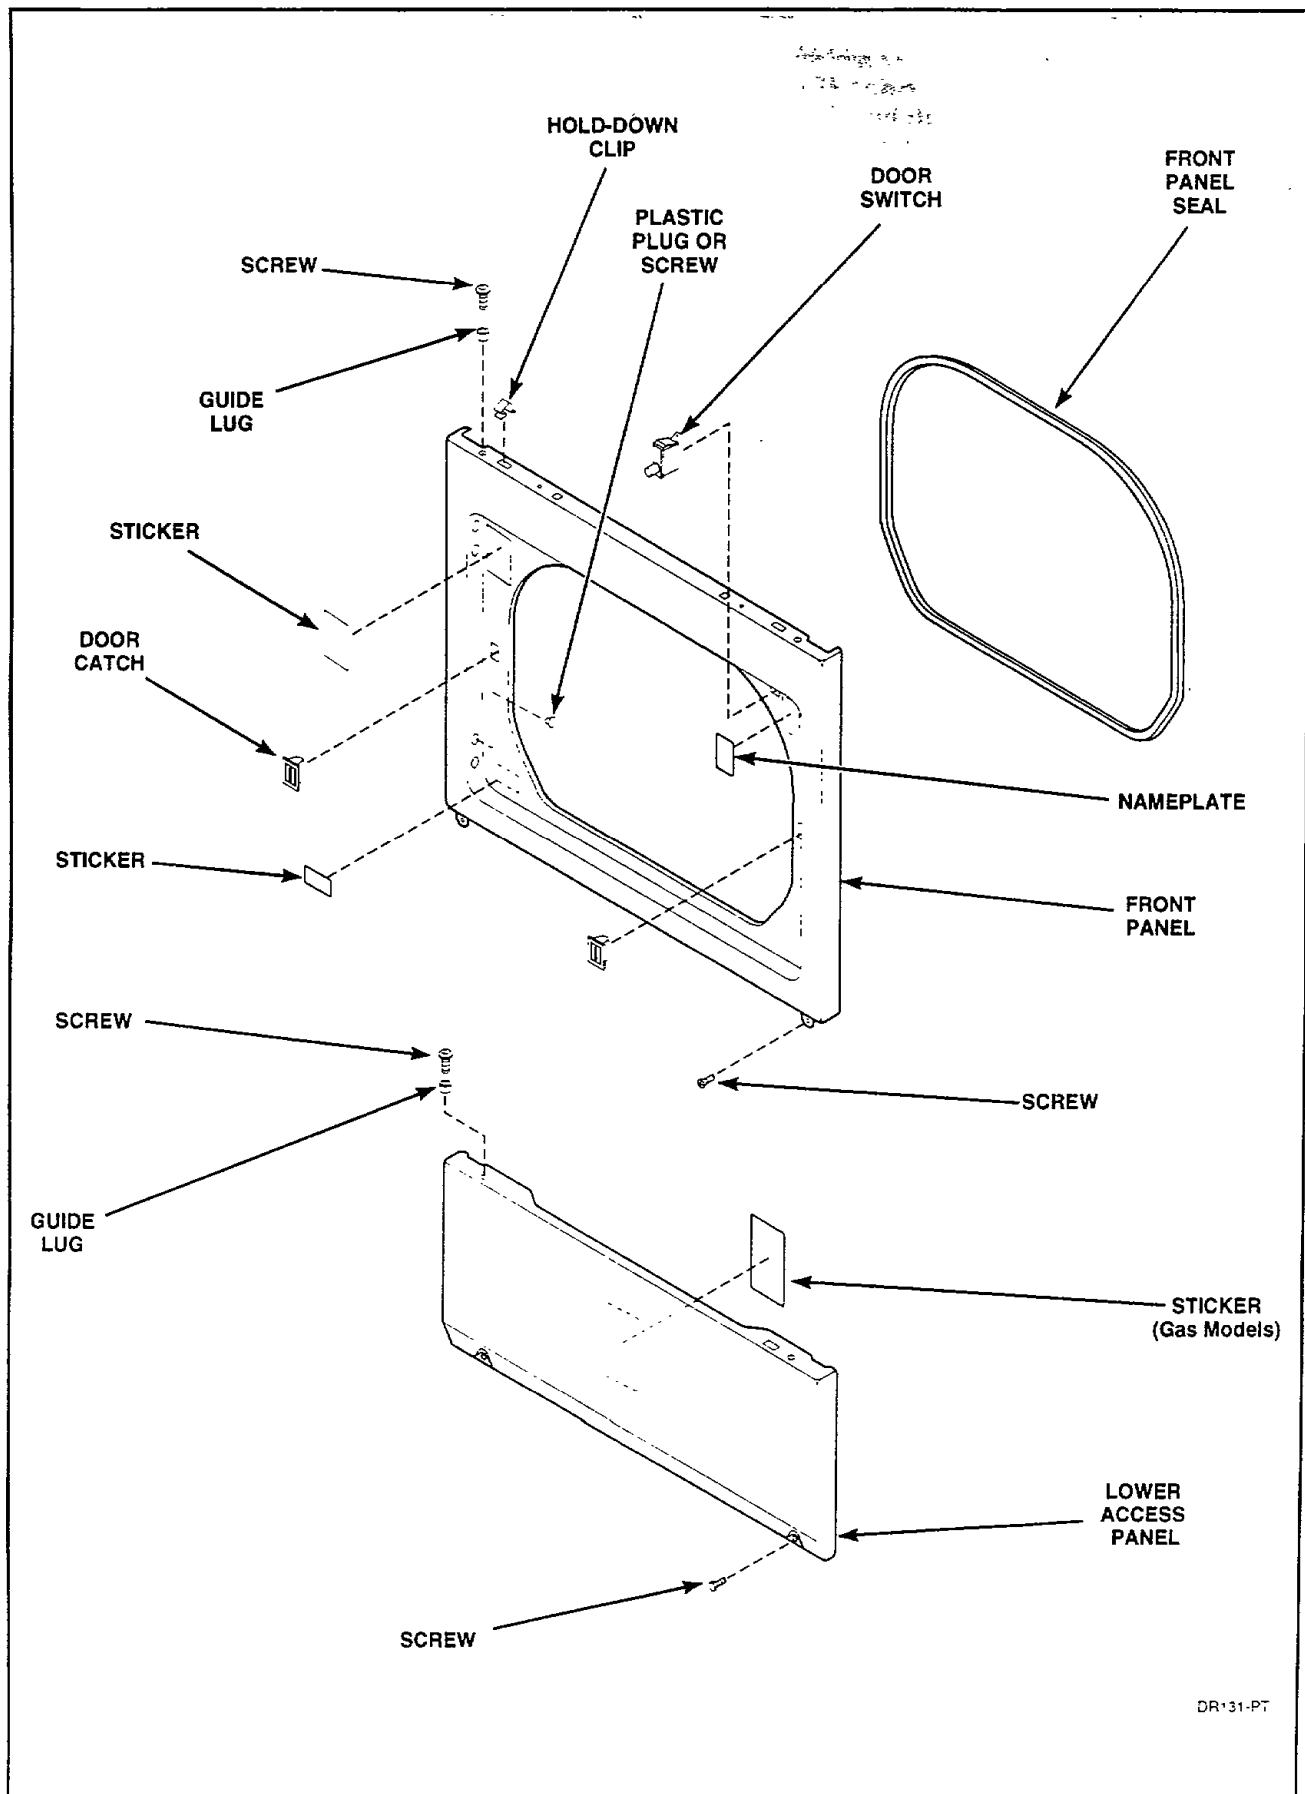

Figure 24
- e. Remove front panel seal from flange around inside of door opening, *Figure 24*.
- e. Depress tabs on top and bottom of door catch and push catch out of front panel, *Figure 24*.
- f. Remove screws holding guide lugs to access panel or front panel, *Figure 24*.